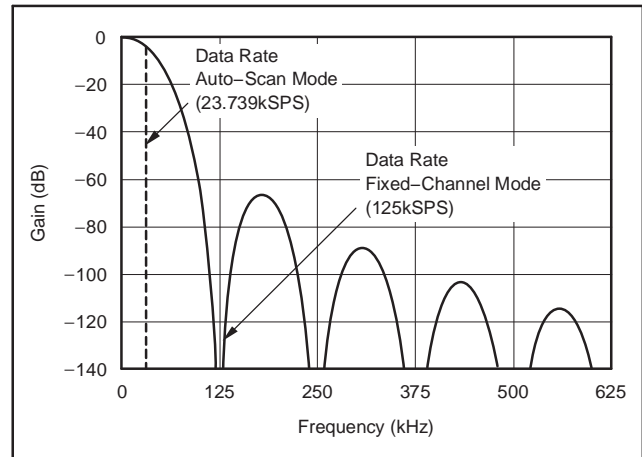
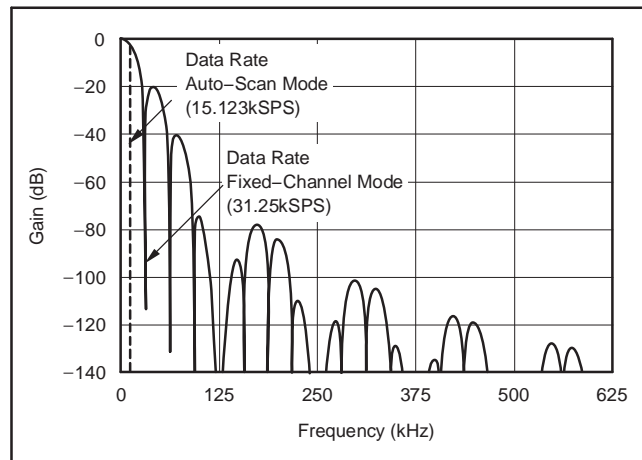

Figure 42. Frequency Response, DRATE[1:0] = 11
Figure 43. Frequency Response, DRATE[1:0] = 10
The low-pass filter has notches (or zeros) at the data output rate and multiples thereof. The sinc^5 part of the filter produces wide notches at $f_{CLK}/128$ and multiples thereof. At these frequencies, the filter has zero gain. Figure 42 shows the response with no post averaging. Note that in Auto-Scan mode, the data rate is reduced while retaining the same frequency response as in Fixed-Channel mode.
Figure 43 shows the response with averaging set to 4 (DRATE[1:0] = 10). 4-reading, post-averaging produces three equally-spaced notches between each main notch of the sinc^5 filter. The frequency response of DRATE[1:0] = 01 and 00 follows a similar pattern, but with 15 and 63 equally-spaced notches between the main sinc^5 notches, respectively.
(1) f_{CLK} = 16MHz, Chop = 0, and Delay = 0.
(2) Num_Ave is the number of averages performed by the digital filter second stage.
(3) In Auto-Scan mode, the data rate listed is for a single channel; the effective data rate for multiple channels (on a per-channel basis) is the value shown in Figure 42 and Figure 43 divided by the number of active channels in a scan loop.
Referring to Figure 42 and Figure 43, frequencies present on the analog input above the Nyquist rate (sample rate/2) are first attenuated by the digital filter and then will alias into the passband.